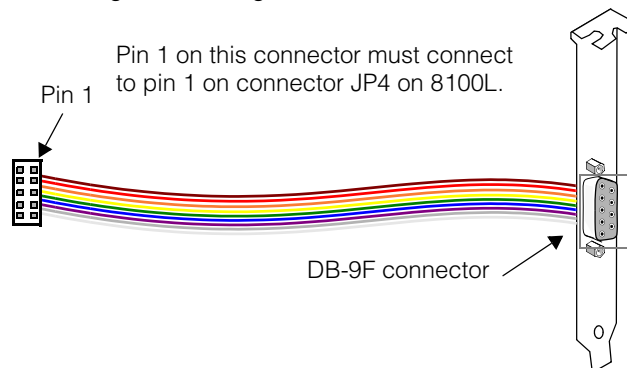
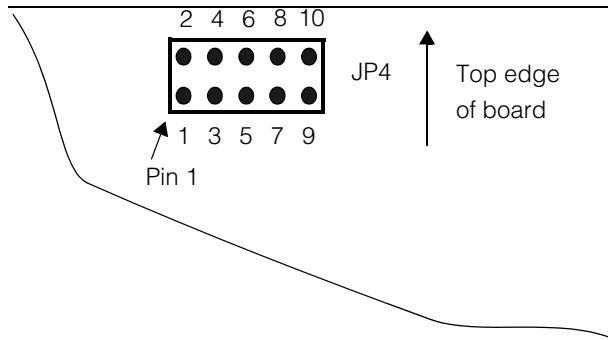

Figure 6. Trigger and strobe expansion panel (P/N 800-0062)
Figure 7. Location of pin 1 on connector JP4 of MVS-8100L
7. If you are not using the trigger and strobe expansion panel, proceed to the next step. If you are using the trigger and strobe expansion panel, Cognex P/N 800-0062, install it in an unused slot position. Connect the ribbon cable to connector JP4 on the MVS-8100L so that pin 1 on both connectors are aligned as shown in Figure 6 and Figure 7.